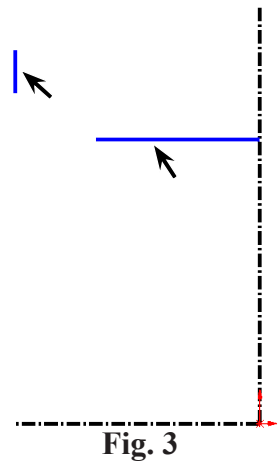

Fig. 3
Step 5. Click **Line**  (L) on the Sketch toolbar.
Step 6. Sketch **line horizontal and vertical line**, **Fig. 3**. Double click to terminate the chain.